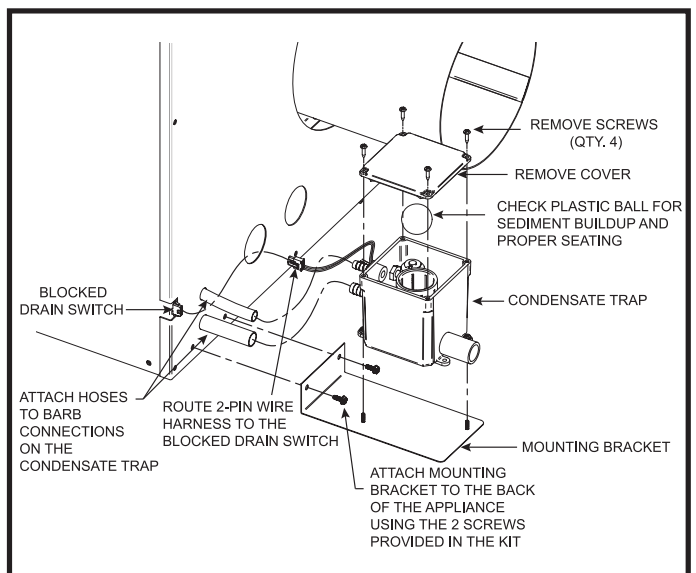

FIG. 43 Install Condensate Trap
1. Locate the condensate trap kit shipped loose with the appliance. The kit includes a sheet metal mounting base, two (2) nuts and the condensate trap.
2. Install the condensate trap mounting base on the rear of the appliance in the lower left-hand corner as depicted in Figure 43. Use the pre-drilled holes on the appliance to secure the mounting base to the appliance.
3. Secure the condensate trap to the base using the two (2) nuts supplied with the kit. The trap should be oriented so that the barb connections are pointing toward the appliance (Figure 43).
5. Locate the two hoses exiting the back of the appliance. Attach the larger hose on the appliance to the lower barb connection on the condensate trap. Secure the hose to the barb with a field supplied hose clamp (Figure 43).
6. Attach the smaller hose on the unit to the upper barb connection on the condensate trap. Secure the hose to the barb with a field supplied hose clamp (Figure 43).
7. Route the 2-pin wiring harness from the condensate trap to the matching connector on the lower back of the appliance as shown in Figure 43. This is the blocked drain safety switch. This switch will shut the appliance off if the condensate trap becomes too full of liquid.
9. If spillage is still occurring, shut the appliance off. Remove the four (4) screws securing the top cover to the condensate trap and remove the cover (Figure 43).
11. Replace the top cover on the condensate trap. Re-install the four (4) screws removed in Step 9 to secure the top cover.
12. A 1/2" pipe connection is supplied on the condensate trap. Connect a suitable pipe or tube to this connection (see Figure 43).